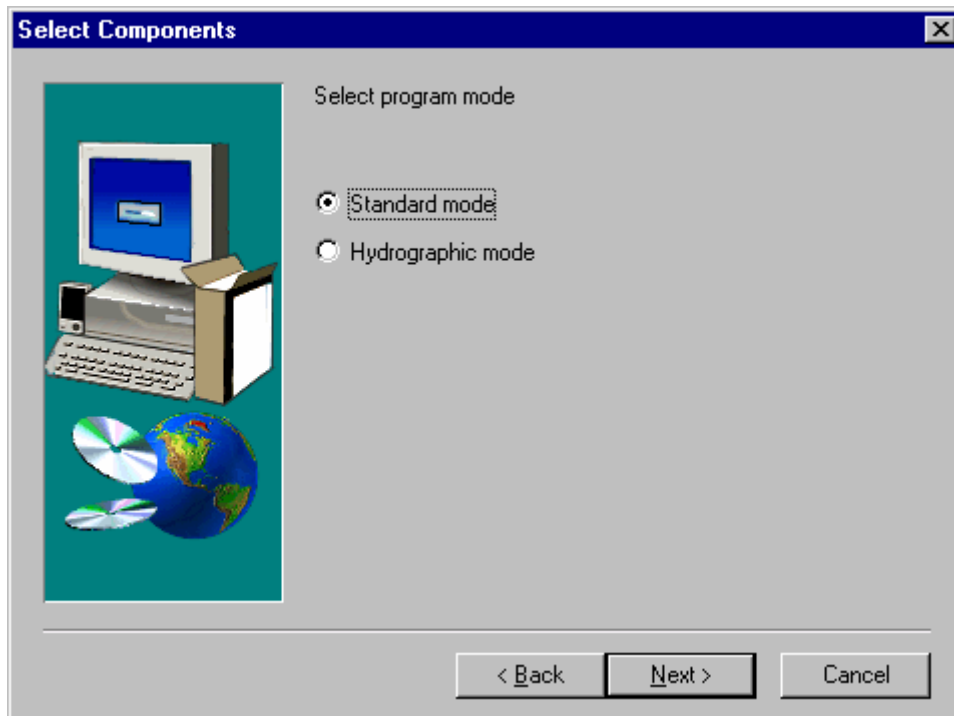

Figure 15 Selection of program mode to install
3. In the **Select Components** window shown in Figure 15, select Standard mode. The other selection, Hydrographic mode, is for those who want to select the digital interface from the predefined list of echo sounders.